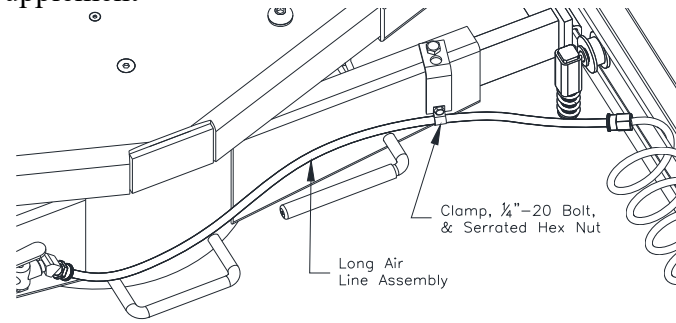

Figure 16
22. Repeat procedure for the Long Air Line Assembly as shown in **Fig 16**.